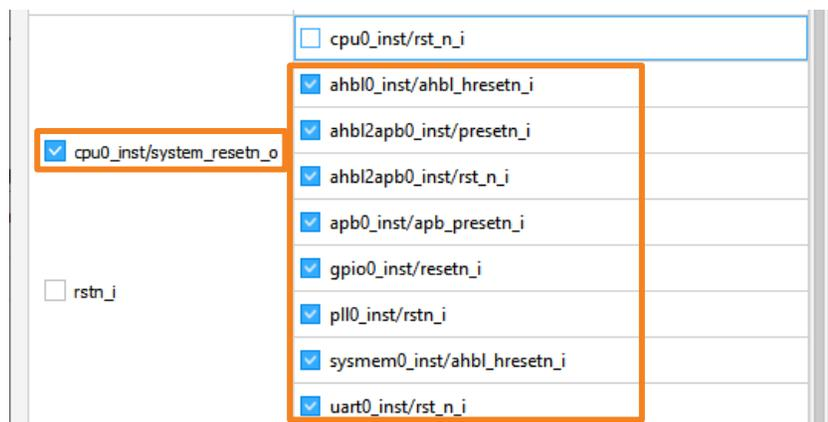

Figure 2.50. Connecting CPU Instance Reset Output Port
- If the SoC project contains a CPU instance, and the CPU instance has an output clock/reset port, such as `cpu0_inst.system_resetrn_o` (Figure 2.50), the clock/reset of other instances are thus connected to the clock/reset port of the CPU Instance (Figure 2.50).
- If the SoC project does not contain a CPU instance, clock/reset on all instances connect to the top clock/reset port. Top clock/reset port is the port such as `rstn_i` in Figure 2.50.
- b. The output clock/reset port on one instance should not be connected to its own clock/reset input port. For example, `cpu0_inst.system_resetrn_o` should not connect to `cpu0_inst.rst_n_i` in Figure 2.50.